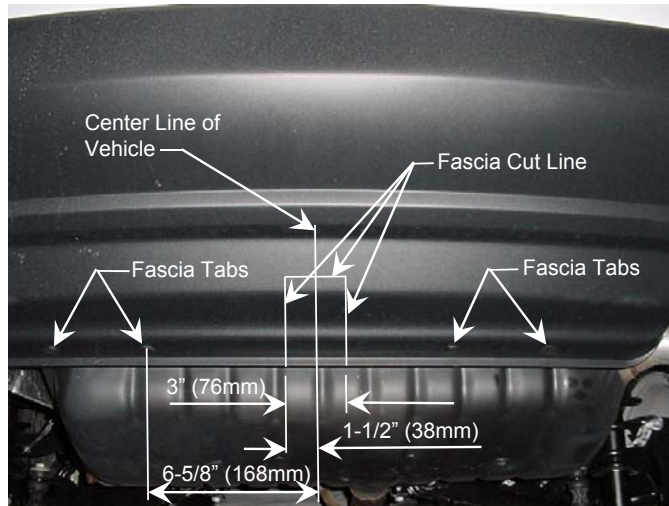

Figure 3
- If vehicle has **optional tow hook** see Note 1, above. For **Compass Rallye** see Note 2 and Figure 2. **Check with vehicle owner**. For **2011 and later Jeep Patriot and Compass models**, Fascia trimming is required for hitch installation. Obtain vehicle owners approval before cutting. See Figure 3 for fascia trimming diagram.